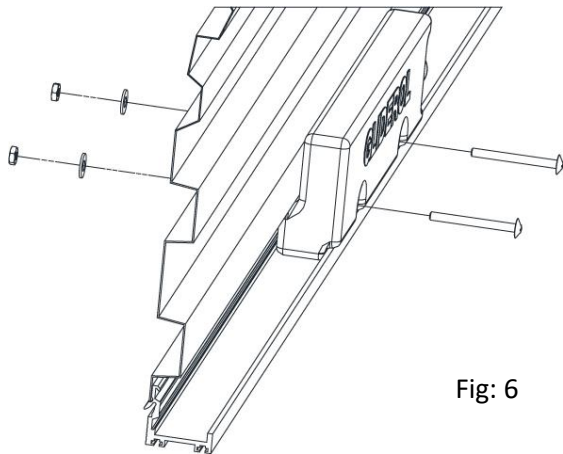

Fig: 6
- l) Locate the weight bar on the centre of the bottom rail and drill two locating holes through the holes on the weight bar into the bottom rail. Secure the weight bar with two bolts provided. (Fig 6)